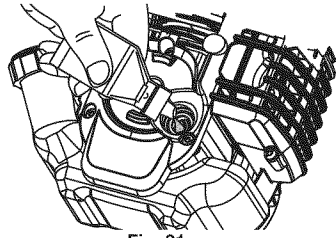
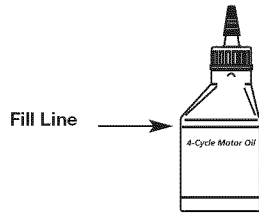

Fig. 21
Fig. 22
**NOTE:** Use the bottle and spout saved from initial use to measure the correct amount of oil. The top of the label on the bottle measures approximately 3.04 fl.oz. (90 ml) (Fig. 22). Check the level, See Checking the Oil Level. If the level is low, add a small amount of oil and recheck. Do not overfill (Fig. 21).